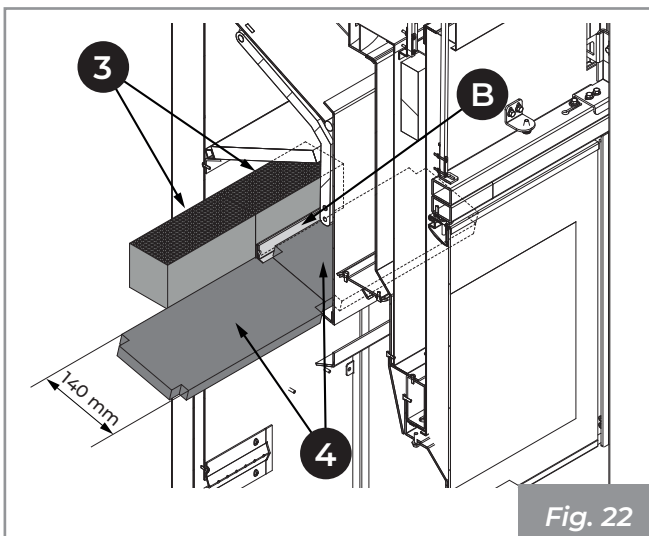

Fig. 22
- 5) Position the O2RINGS (3) by inserting them on the appropriate support (B) (Fig. 22).